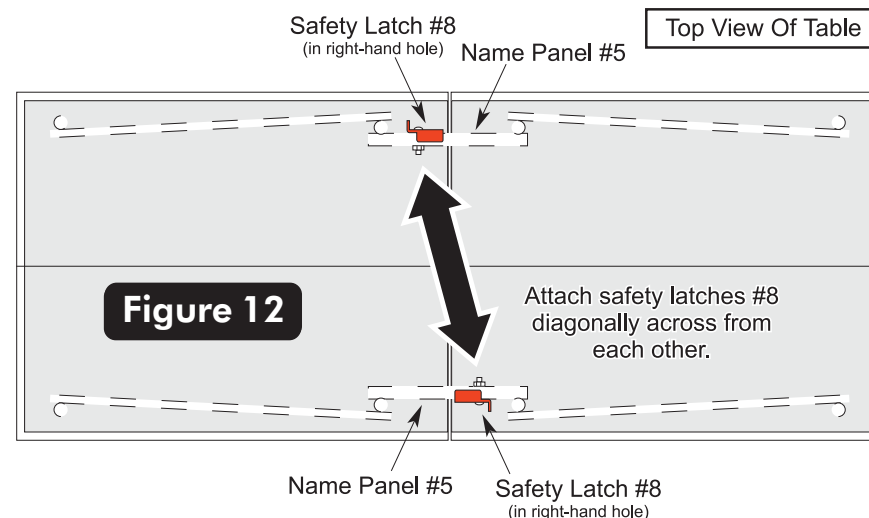

Figure 12
32. Go to the other side of the table and install the second safety latch into the right-hand hole on the other name panel #5. **NOTE: Safety latches must be attached diagonally across from each other. See Figure 12.**